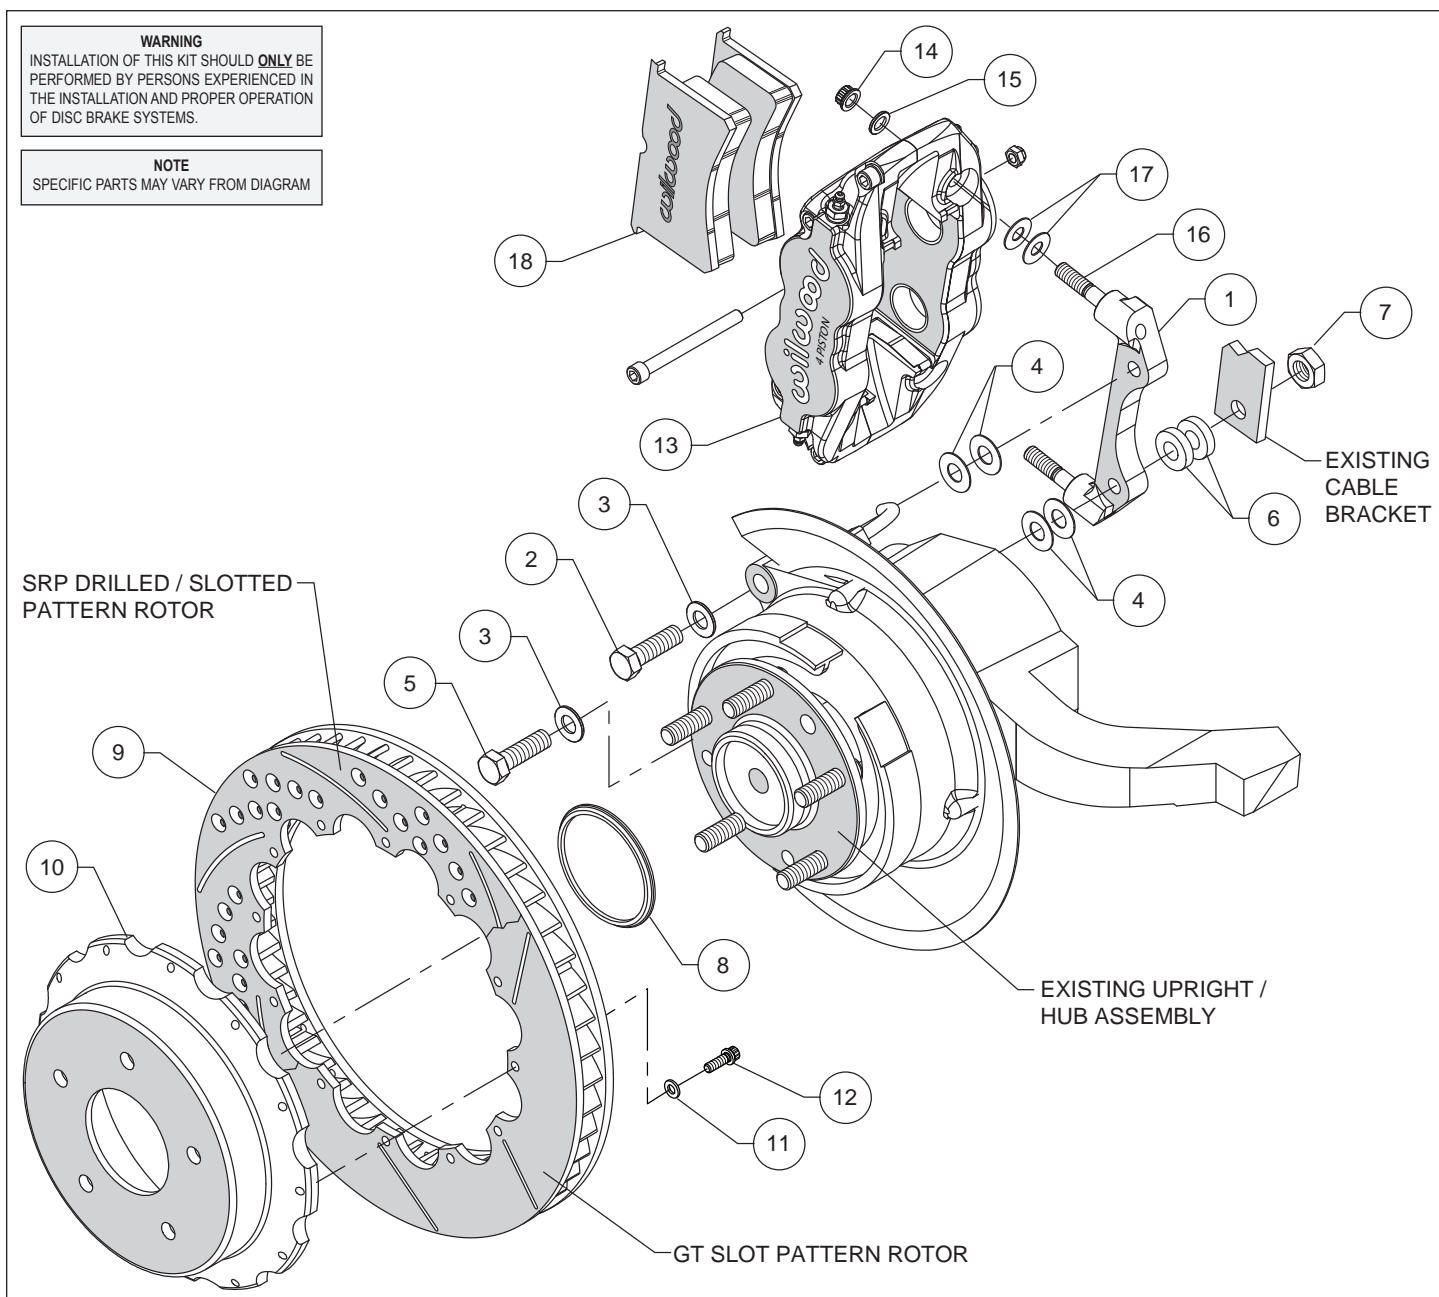
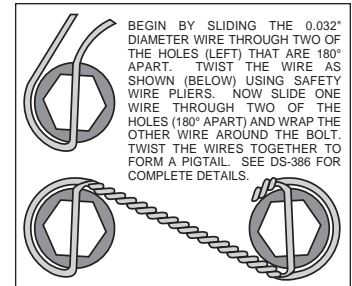

Figure 1. Typical Installation Configuration
Figure 3. Safety Wire Diagram
Assembly Instructions (numbers in parenthesis refer to the parts list and Figure 1 on the preceding pages):
- The caliper mount bracket (1) should initially be installed with clean, dry threads on the mounting bolts. Orient the bracket as shown in Figure 1, and install using bolts (2), washers (3) and shims (4) for the top mounting holes. Secure the bottom of the bracket using bolts (5), washers (3), and shims (4) as shown in Figure 1. Initially place two shims (4) on each bolt between the bracket and upright, Figure 1. Temporarily tighten the mounting bolts. **NOTE:** *The bracket must fit squarely against the mount bosses on the upright.* Inspect for interference from casting irregularities, machining ridges, burrs, etc. Later, after the caliper alignment has been checked, the mount bolts will be secured using red *Loctite*[®] 271.
- Orient the rotor (9) and the hat (10) as shown in Figure 1 and Photo 1. Attach rotor to hat using bolts (12) and washers (11). Using an alternating sequence, apply red *Loctite*[®] 271 to the threads, and torque to 140 in-lbs. Safety wire bolts using standard 0.032 inch diameter stainless steel safety wire as shown in Figure 3. Please refer to Wilwood's data sheet DS-386 (available at www.wilwood.com/Pdf/DataSheets/ds386.pdf) for complete safety wire installation instructions.
- Slide the rotor registration adapter (8) onto the axle register on the axle hub with the smaller O.D. facing outward, Photo 2. Slide the hat/rotor assembly onto the axle hub. **NOTE:** *The hat must fit flush against the axle hub flange or excessive rotor run out may result.* Install three lug nuts (finger tight) to keep the hat/rotor assembly in place while continuing with the installation.
- Lubricate the caliper mounting studs (16) with lightweight oil. Initially place two .035" thick shims (17) on each stud as shown in Figure 1 and Photo 3. Mount the caliper (13) onto the bracket (1) using lock nuts (14) and washers (15), Figure 1 and Photo 4. Temporarily tighten the lock nuts and view the rotor through the top opening of the caliper. The rotor should be centered in the caliper, Photo 6. If not, adjust by adding or subtracting shims (4) between the bracket and the upright. Always use the same amount of shims on each of the two mounting bolts. Once the caliper alignment is correct, remove the bracket mounting bolts one at a time, apply red *Loctite*[®] 271 to the threads, and torque to 60 ft-lb.